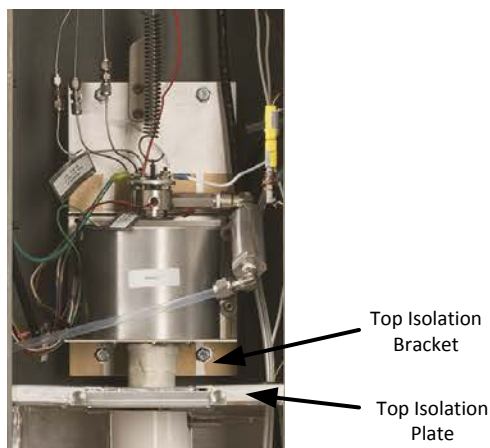

Fig. 5.3. Details at the Top of the Column
7. Remove the two screws holding the top isolation plate and retain these screws for later use (see Figure 5.3).